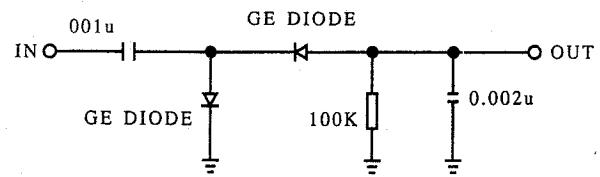

FIG 2
5. Connect alignment scope probe to emitter of Q103 through a detector as shown in figure 2.